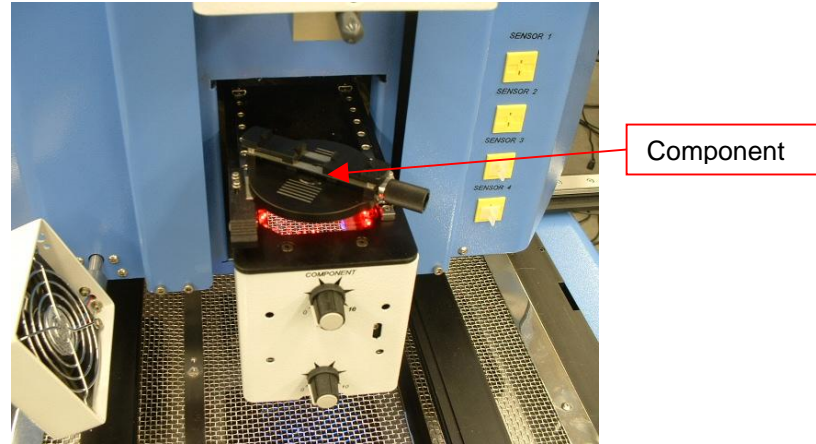

Figure 17a
- ix. Place the component in the mounting plate on top of the camera housing. (Figure 17a) The component needs to be oriented the same as the nozzle. Adjust per paragraph 11.